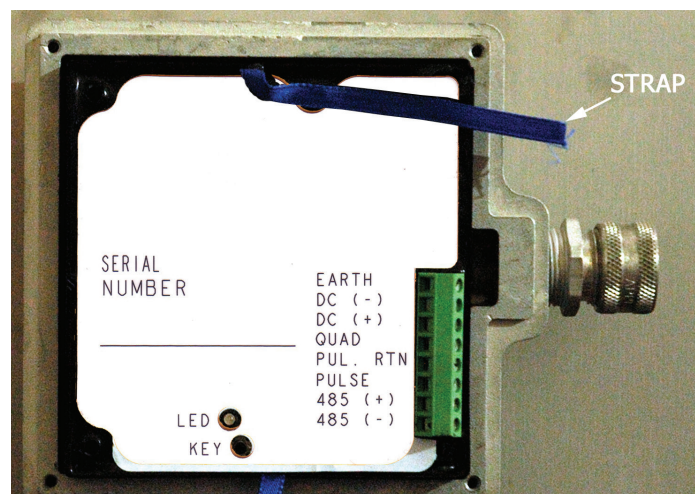

Fig. 3.3 Removing Electronics Module
4. Using the straps on the sides of the electronics module, pull the module out of the housing and set aside carefully (Figure 3-3).